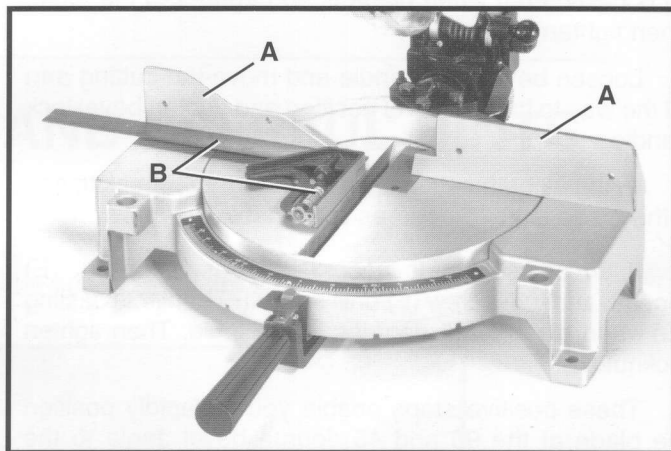

Fig. 22
If the fence (A) Fig. 22, is ever removed from the saw it should be adjusted so it is 90 degrees to the blade when it is replaced, as follows:
3. Using a square (B) Fig. 22, place one end of the square against the fence (A) and the other end against the slot in the table as shown.